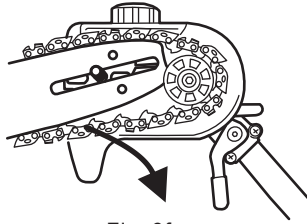

Fig. 6f
8. Align the saw chain around the drive sprocket (D10) and place one corner of the guide bar into a gap of the sprocket. (See Fig. 6f)